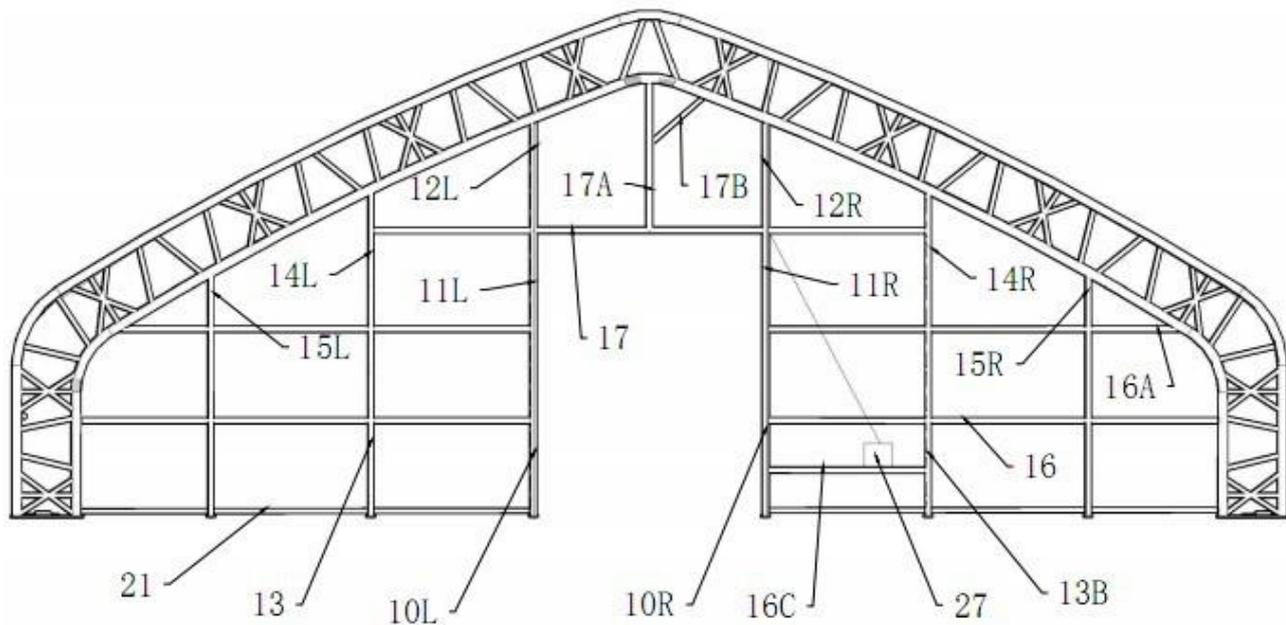

Figure 7
2. Same way to assembly the Back door.(See Figure 7)